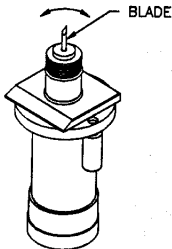

Figure 2-6— Inserting Blade
4. Carefully holding the blade tip between your fingers, start the blade insertion with a twisting motion, then firmly push the blade into the cutter using a plastic object such as the barrel of a pen, or felt-tip marker. You should feel the blade click into position. **DO NOT** use metal objects to seat the blade, as they may damage the sharp point. (See Figure 2-6).